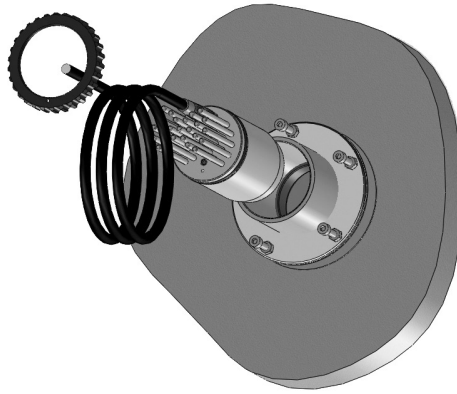

Fig.8.3
7. The housing should now be ready for removal. Depending on how long the unit has been installed may determine whether the unit will easily come out of the housing. Using the 3 holed tool still on the pins, rotate the entire insert clockwise and counter clockwise to break any debris that may have become lodged. The insert is coated with a PTFE coating which should enable the insert to be easily removed (Fig.8.3).